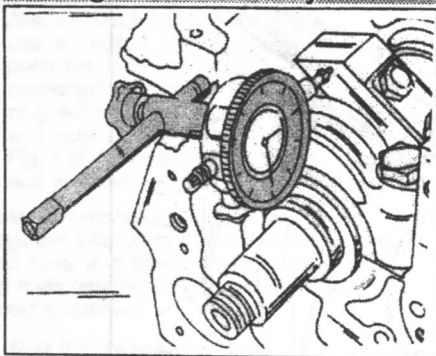

Fig. 1.31. — Checking the crankshaft end float.
- The end float of the crankshaft must now be checked. Arrange a dial gauge with a suitable holder as shown in Fig. 1.31, placing the stylus against the counter weight face.